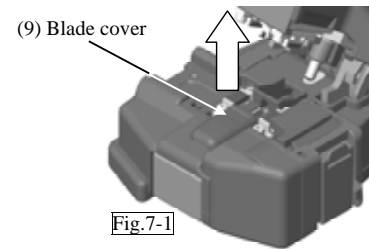
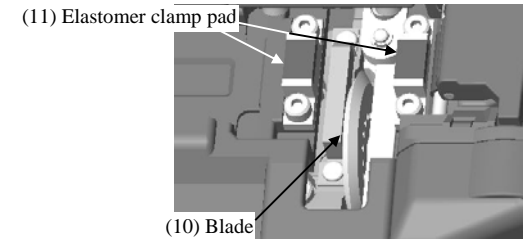

Fig.7-1
Fig.7-2
**NOTE:** For proper operation of the CT-30 cleaver, after removing the blade cover (9) (Fig.7-1), clean the circular blade (10) and the elastomer clamp pads (11) frequently with cotton swabs soaked with alcohol (Fig.7-2).
1. Remove the blade cover (9) (Fig.7-1).
2. Remove the small fiber scrap container box (5), the large fiber scrap container box (6) or the side cover (16).
3. Push the slide button (3) until it locks.
4. Using a 1.5mm hex wrench, loosen the blade lock screw (12).
5. Rotate the circular blade (10) 1/16th of a turn.
6. Tighten the blade lock screw (12).
7. Attach the blade cover (9).